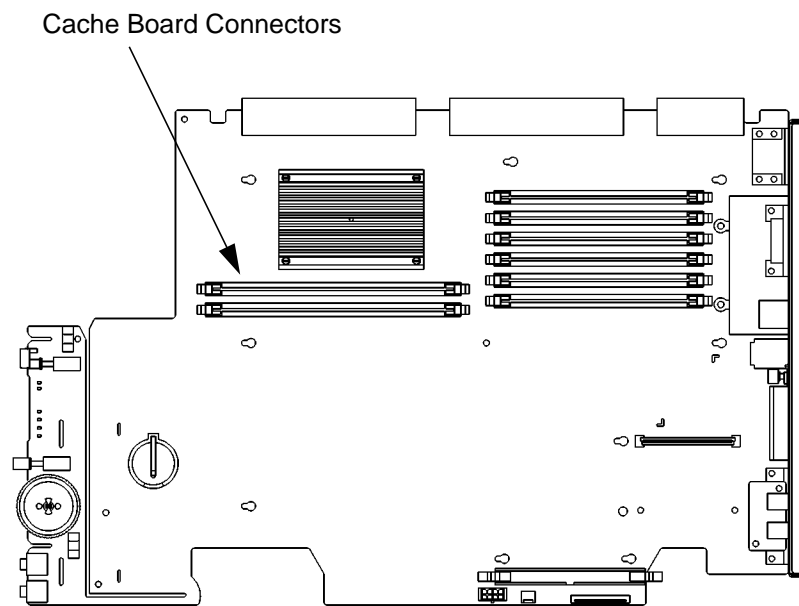

Figure 48 Cache Boards Location
- 1 Locate the cache boards on the CPU board, as shown in Figure 48.